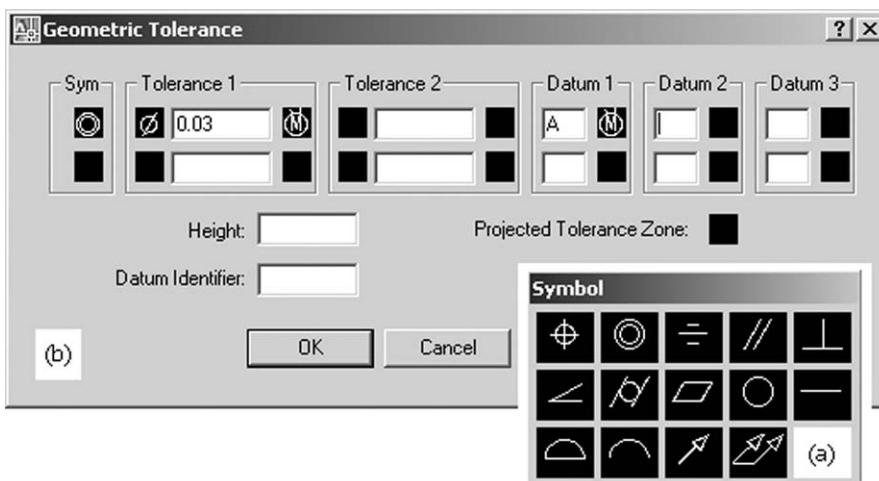

Figure 25.4 (a) The generic symbol dialogue box and (b) the Geometric Tolerance dialogue box the on-screen example.
prompt	Symbol dialogue box as Figure 25.4(a)
e) at Datum 1, pick the right (MC) box and pick M
f) Geometric Tolerance dialogue box as Figure 25.4(b)